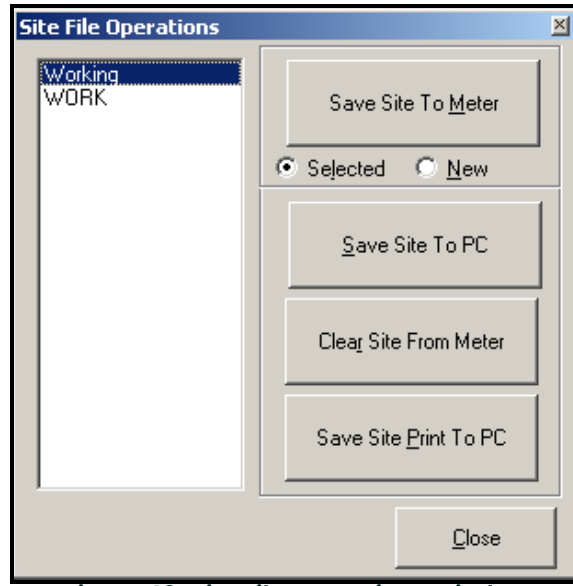

Figure 49: Site File Operations Window
- 3. Click on the [Site Files] button. The *Site File Operations* window (shown in Figure 49) opens.
3. The *Site File Selection* window (Figure 49 on page 66) opens. Highlight a site file with the desired settings, and click [Open]. The site file becomes the *Working* site in the meter with the desired settings.
1. Highlight the desired site in the left pane. (See Figure 49 on page 66.)
1. Highlight the site in the left pane. (See Figure 49 on page 66.)